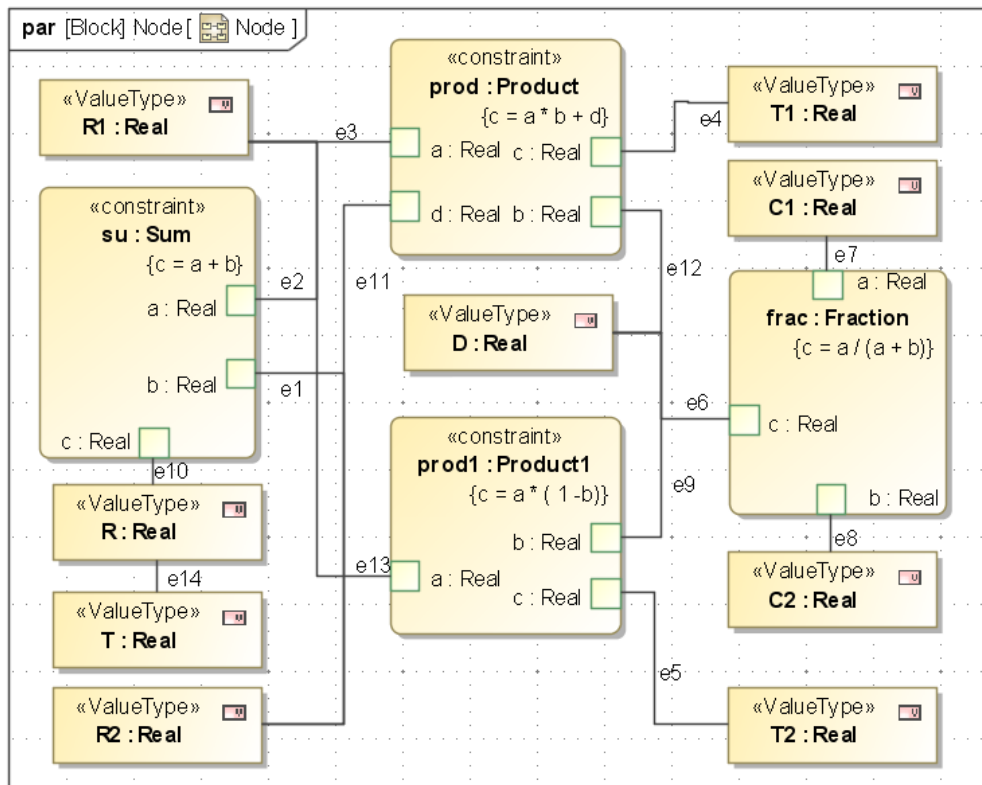

Figure 5.7 Node parametric diagram (flowports deleted from diagram)
5. Create the five constraint blocks required by the model: **ErrorRate**, **Fraction**, **Product**, **Product1** and **Sum**. Usage of these constraint blocks are shown in the parametric diagrams in Figure 5.7 and 5.8, which show the constraints and constraint parameters for each.
- a. Create a parametrics diagram within the **Node** block, Name = **Node**. This diagram, shown in Figure 5.7, contains four separate constraint properties, with the constraints shown, the nine internal value properties, and the nested connectors tying them together. In this example, the objective of the equations to redistribute the incoming signal to the two outgoing channels, based on their relative capacities. No claim is made about the realism of this model.